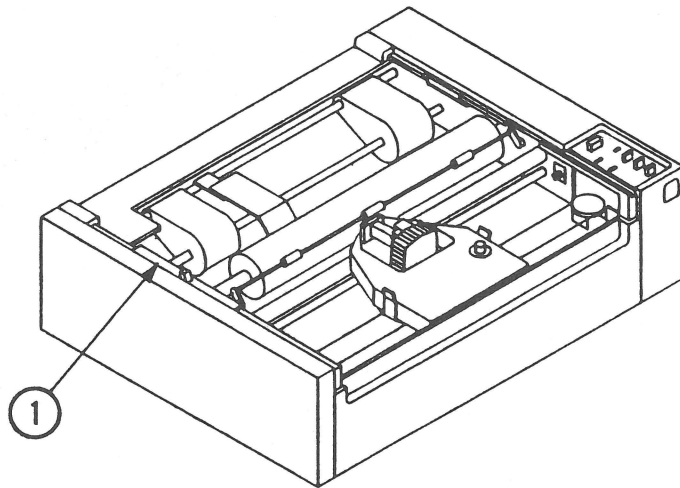
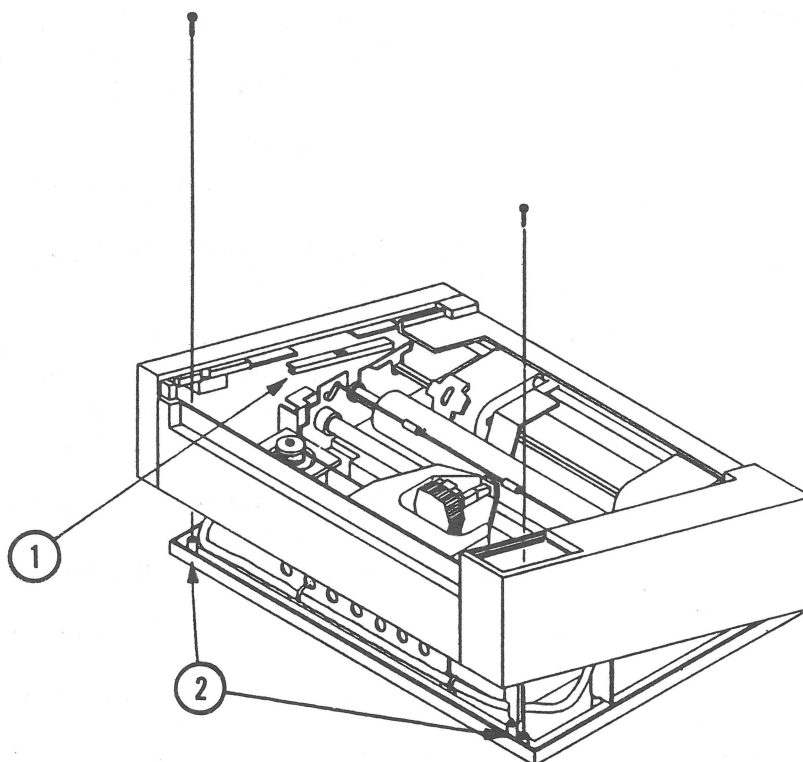

FIGURE 3
FIGURE 4
6. Replacing the cover will be much easier if you carefully note the position of the sliding cover (Figure 3, #1, and Figure 4, #1) for the paper release lever. This small piece will fall free unless held in place when the top is removed. Tape it or hold it in place with your thumb when the cover is pulled up.
7. Remove the two screws (Figure 4, #2) at the front of the printer, and lift up the front of the top cover.
1. Move the paper release lever (Figure 3, #1 and Figure 4, #1) to a position midpoint between its forward and rear position.
4. Carefully lower the cover so that it doesn't bind on cables, and hold the sliding paper release cover (Figure 3, #1, and Figure 4, #1) in place as the paper release lever slides through it.
5. Replace the two front screws (Figure 4, #2).